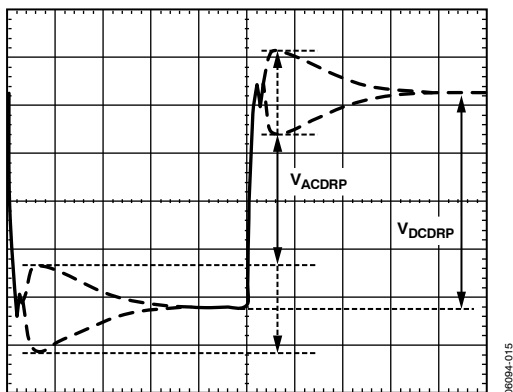

Figure 17. AC Load Line Waveform
- $$R_{PH(NEW)} = R_{PH(OLD)} \times \frac{R_{OMEAS}}{R_O} \quad (47)$$
- Measure the output waveform (use dc offset on scope to see the waveform). Try to use a vertical scale of 100 mV/div or finer. This waveform should look similar to Figure 17.
15. Use the horizontal cursors to measure  $V_{ACDRP}$  and  $V_{DCDRP}$  as shown in Figure 17. Do not measure the undershoot or overshoot that happens immediately after this step.